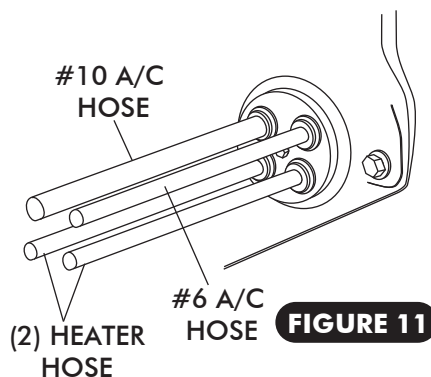

FIGURE 11
- ☐ ROUTE A/C AND HEATER HOSE THROUGH FRESH AIR CAP AND KICK PANEL FRESH AIR CAP AS SHOWN IN FIGURE 11 AND 11b, BELOW.